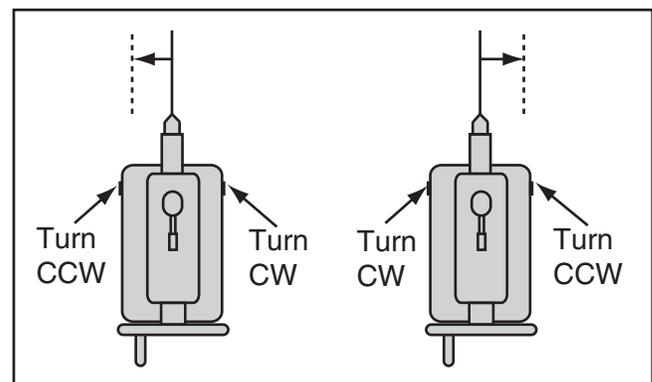

Figure 40. Set screw adjustment in relation to tailstock movement.
2. Rotate the adjustment set screws in opposite directions for the desired offset (see the illustration in **Figure 40**).